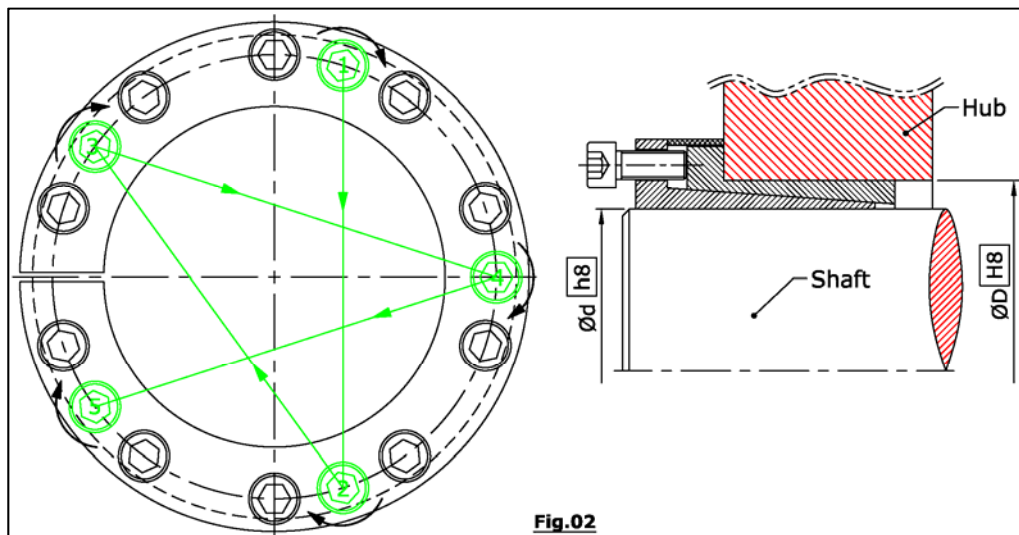

Fig.02
- Loosen the clamping screws uniformly one by one with the help of torque wrench in diametrically opposed sequence in multiple steps by 1/4 revolution (As shown in Fig.02) for each step to Prevent misalignment of the clamping surfaces and breaking of screws. Don't loose single screw at a time, otherwise it may lead to tilt inner ring and outer ring and damage of locking assembly occurs.
- After loosening Screws, Remove some Screws which are clamped on locking assembly or nearest to removal holes and those screws insert into removal tapped holes (as shown in Fig.02).